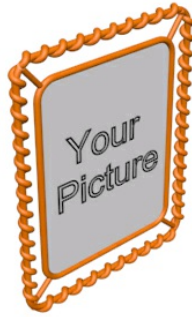

Figure 5-68 The final output after rendering
3. Activate the Perspective viewport. Next, choose the **Render Production** tool from the Main Toolbar; the **Rendered Frame** window is displayed. This window shows the final output of the scene, refer to Figure 5-68.